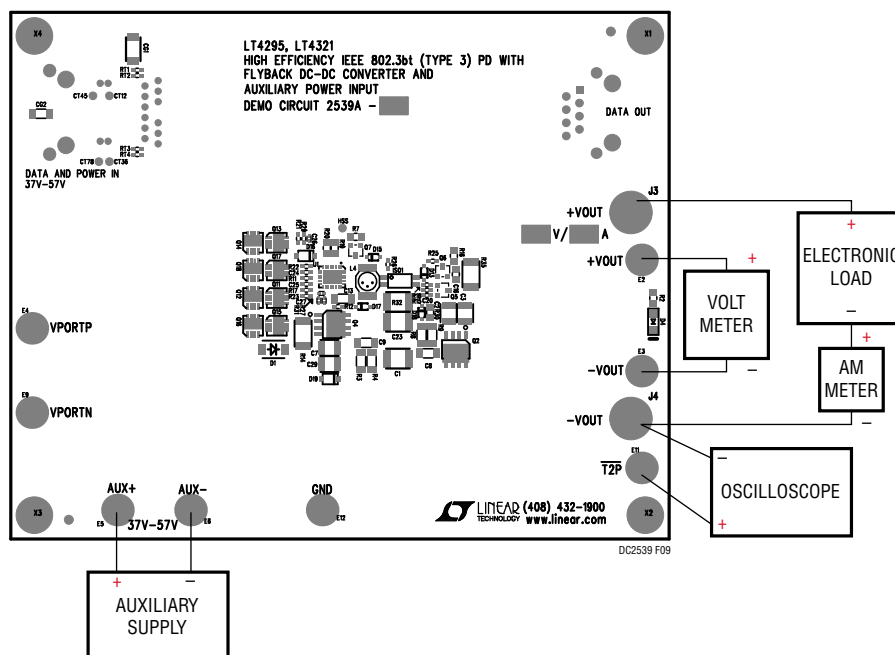

Figure 9. Setup Diagram for Auxiliary Supply Input
1. Place and connect test equipment (voltmeter, ammeter, oscilloscope, and electronic load) as shown in Figure 9.
3. Connect the output of the auxiliary supply to the DC2539A as shown in Figure 9. Turn on the auxiliary supply and set its current limit to 2A. Then increase its output voltage to 48V.
6. Verify $\overline{T2P}$ response with an oscilloscope as shown in Figure 9. The $\overline{T2P}$ response during auxiliary power operation is: 75% Logic High/25% Logic Low, Toggle at $976Hz \pm 7\%$